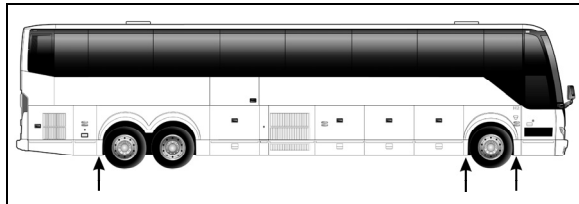

FIGURE 5: JACKING POINTS ON FRAME 18524
- FIGURE 5: JACKING POINTS ON FRAME 4
1. Raise vehicle by its jacking points on the body (fig. 5 or see Section 18, "Body" under heading "Vehicle Jacking Points"). Place jack stands under frame. Remove drive axle wheels (if required, refer to Section 13, "Wheels, Hubs And Tires".